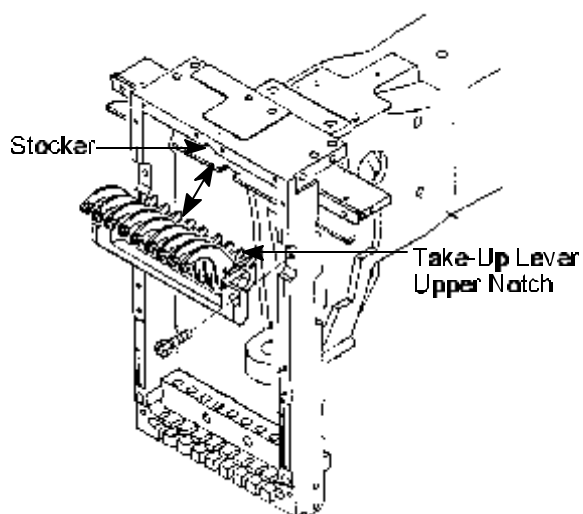

Figure 5
11. **Align** Take-Up Lever Upper Notches to Stocker. *See Figure 5.*